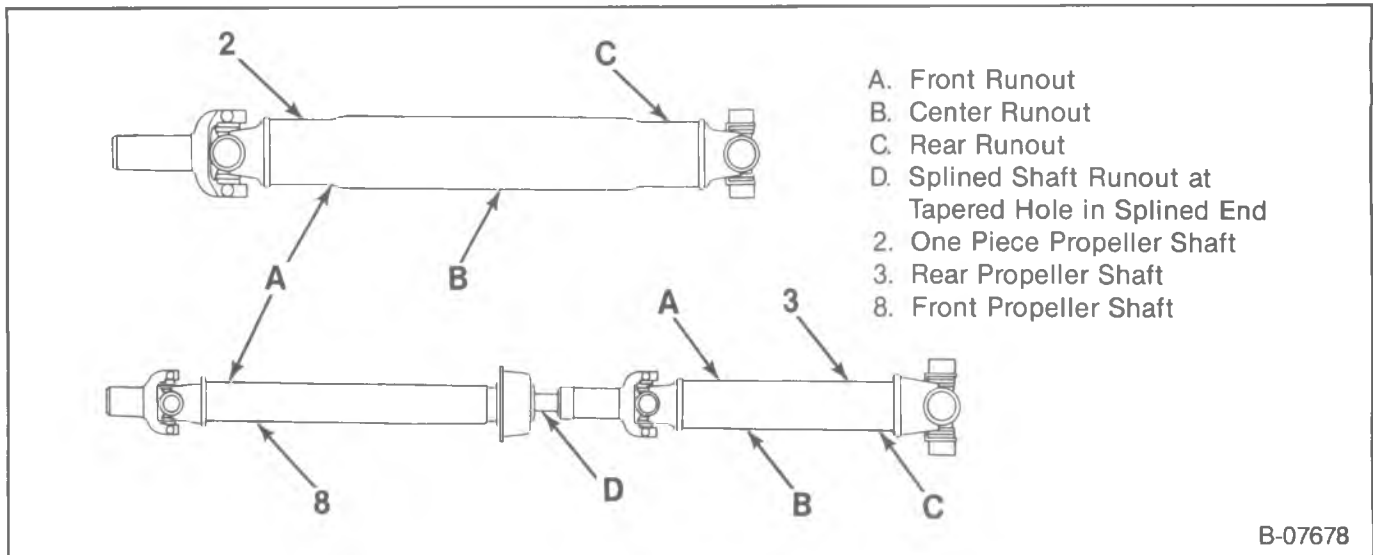

Figure 5—Checking Propeller Shaft Runout
3. Take dial indicator readings at the propeller shaft check points shown in figure 5. For runout specifications, refer to figure 6.
- With the transmission in neutral, hand rotate the axle pinion flange or the transmission yoke and take the necessary dial indicator readings on the propeller shaft. Record the readings. Models having a two-piece driveline, measure the rear propeller shaft runout (figure 5). Reference mark the position of the rear propeller shaft yoke to the pinion flange, then remove the rear propeller shaft and measure the front propeller
shaft runout on the tube and at the tapered hole on the splined shaft end (figure 5). If the runout exceeds specification, rotate the propeller shaft 180 degrees at the companion flange and install. Check the runout.